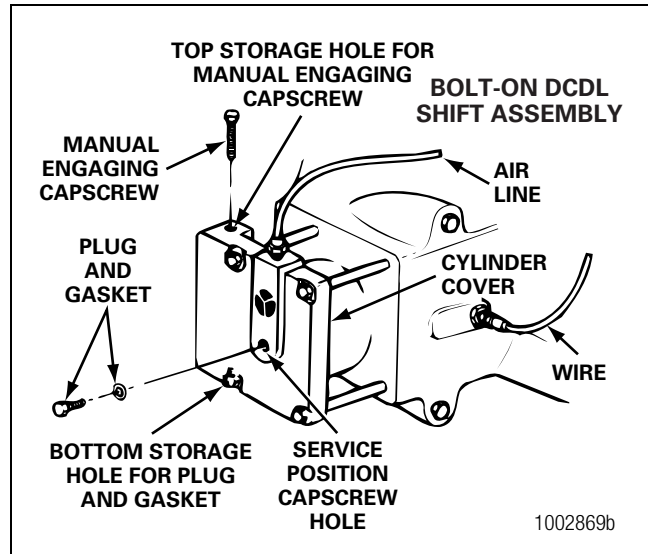
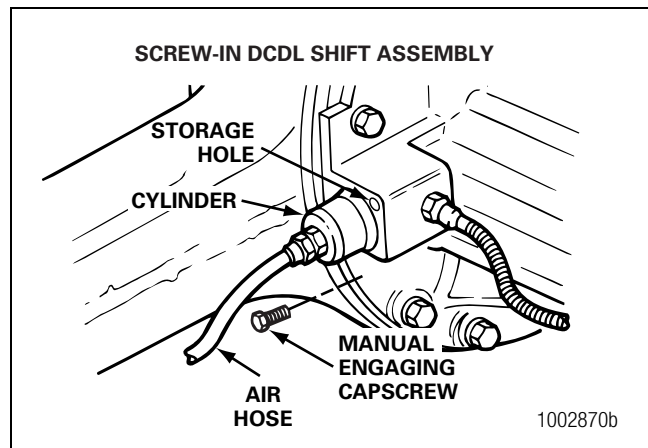

Figure 6.34
Figure 6.35
11. Install the manual engaging capscrew into the DCDL storage hole in the bolt-on or the screw-in DCDL assembly. Figure 6.34 and Figure 6.35.
Install the short plug and gasket into the service position hole in the center of the DCDL. Figure 6.34.
- B. On a screw-in DCDL shift assembly, install the short screw or plug into the storage hole located in the top of the screw-in DCDL shift assembly. Figure 6.35.